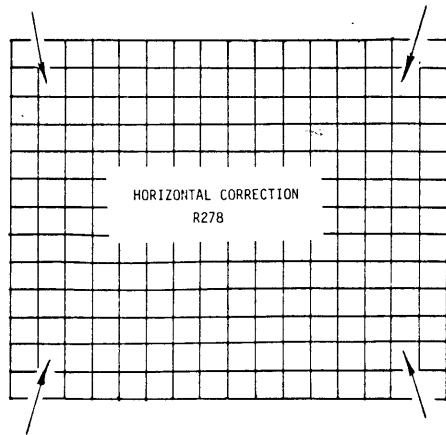

Figure 7. Effects of R278.
L. Adjust Horizontal Correction (R278) to reduce the bowing of the top and bottom lines of the crosshatch. R278 tends to pull the ends of these lines into the center of the display (see Figure 7). Note that turning R278 too far clockwise will severely distort the image.